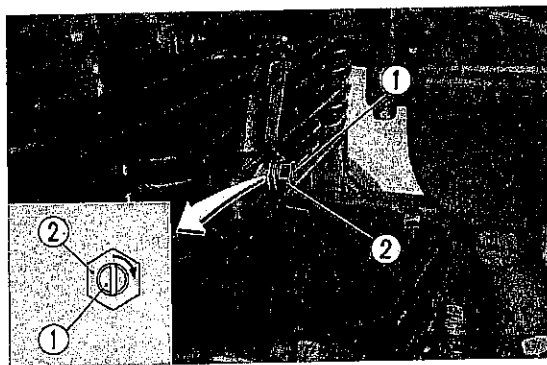

Fig. 58 ① Cam chain tension adjuster
13. Loosen the cam chain adjuster lock nut (Fig. 58) and remove the chain tensioner from the cylinder. To facilitate removal, raise the cylinder about 20 mm (1 in.), and remove the cam chain tensioner.